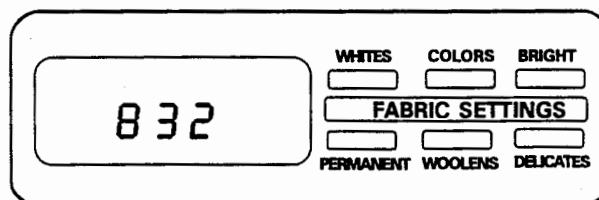

Figure 3-3
The display can contain four (4) numbers and/or letters and a decimal point following the first character. The far left character and the decimal point are used to indicate one (1) of several set-up codes available for use in programming the appliance. The other digits are used to provide information about the code set-up shown (See *Figure 3-3*).